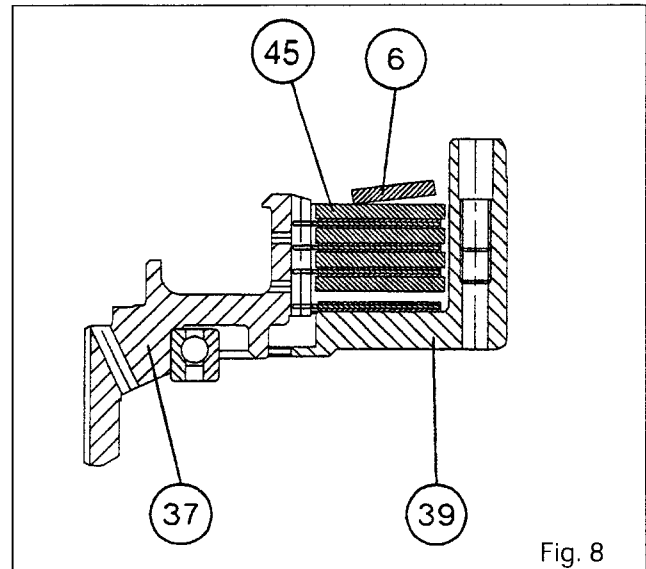

Fig. 8
46. Place first the intermediate plate (41) with progressive washer (6) set as shown in figure 8, shims (59) and screws (60) torqued to 2.2 - 3 Nm on pressure plate (41).